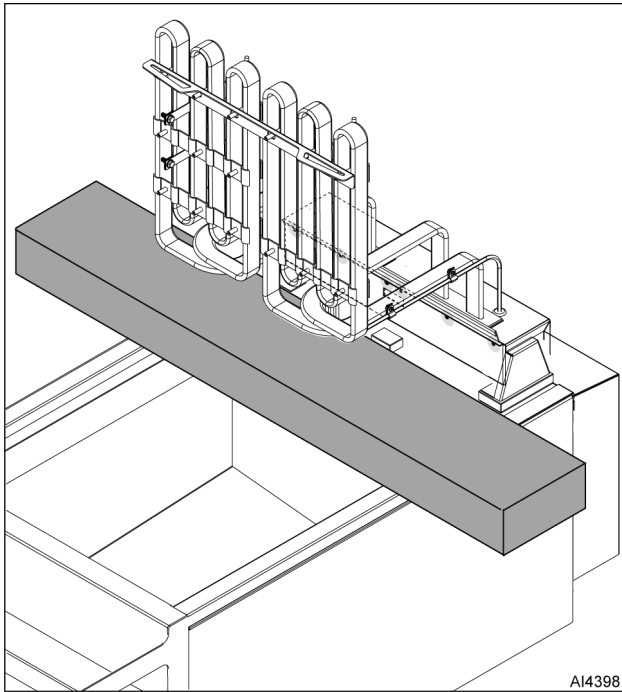

Fig. 4
3. Raise heating elements (Fig. 4) and place 2x4 lumber under them for support.